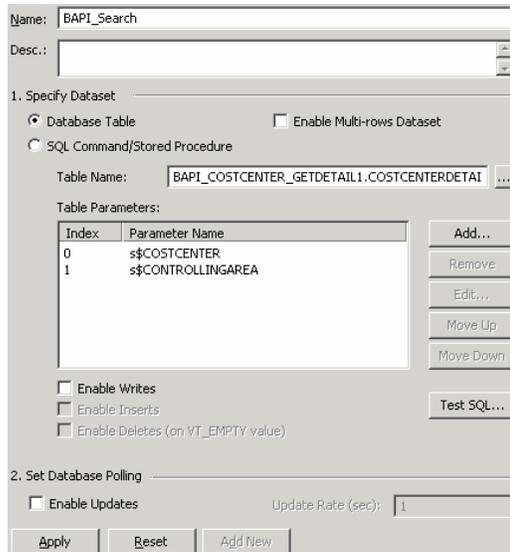

Figure 12: Configure BAPI_Search Data Source
2. Right mouse click on the SAP database connection you've just created and select New -> DataSource. Name this connection "BAPI_Search". Select the Database Table from which you want to get your data. Uncheck "Enable Multi-row Dataset" (we are interested in a singular value in this case). Click "Add" and select the input parameter(s). Click Apply; the Data Source is ready. See Figure 12.